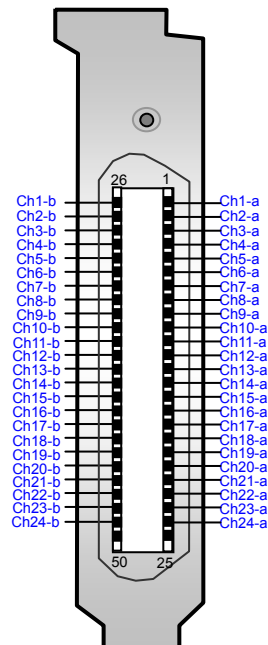

Figure 2-15 RJ21 Pin Layout
- **Interface description:** The physical pin layout of the on-board RJ-21 connector is shown in Figure 2-15. Chn-a and Chn-b are a pair of phone lines, and an RJ-21 connector can connect with 24 pairs of phone lines at the same time.
The ATP-24A series analog tap passive boards have 50-pin RJ21 connectors (often used for PBXs) on them, each of which can be converted into twenty-four 2-pin RJ11 jacks through an RJ21-to-RJ11 adapter. See Figure 2-15 for the pin layout of this kind of connector.